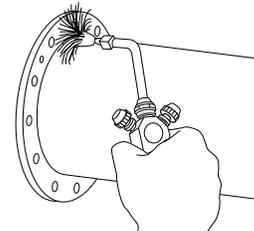

Figure 9
8. Heat the joint to a temperature of 1205° F (626° C) with a torch, using gas and air, keeping the torch tip 2" to 3" from the joint. Move the torch evenly around the joint so the solder flows uniformly. When the solder flows onto the outer surfaces of the conductor and flange, remove the heat (Figure 9).